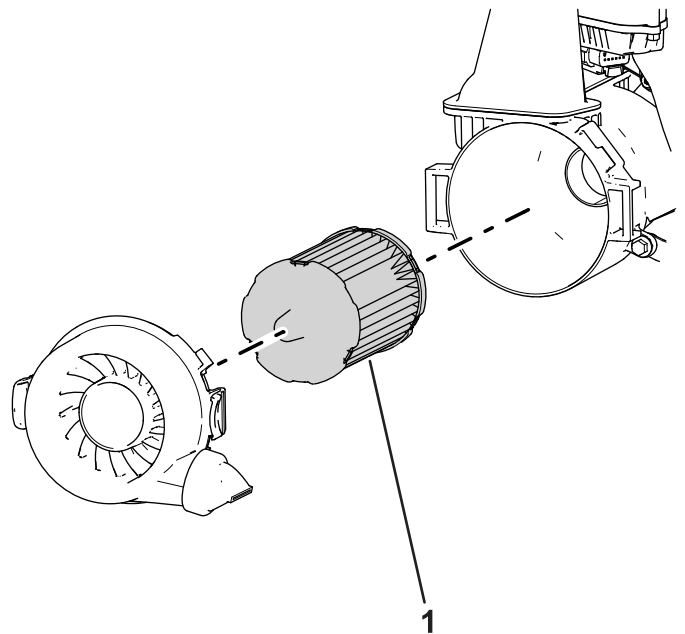

Figure 41
1. Gently slide the air-cleaner element out of the air-cleaner body (Figure 41).
4. Install the air-cleaner cover (Figure 41).